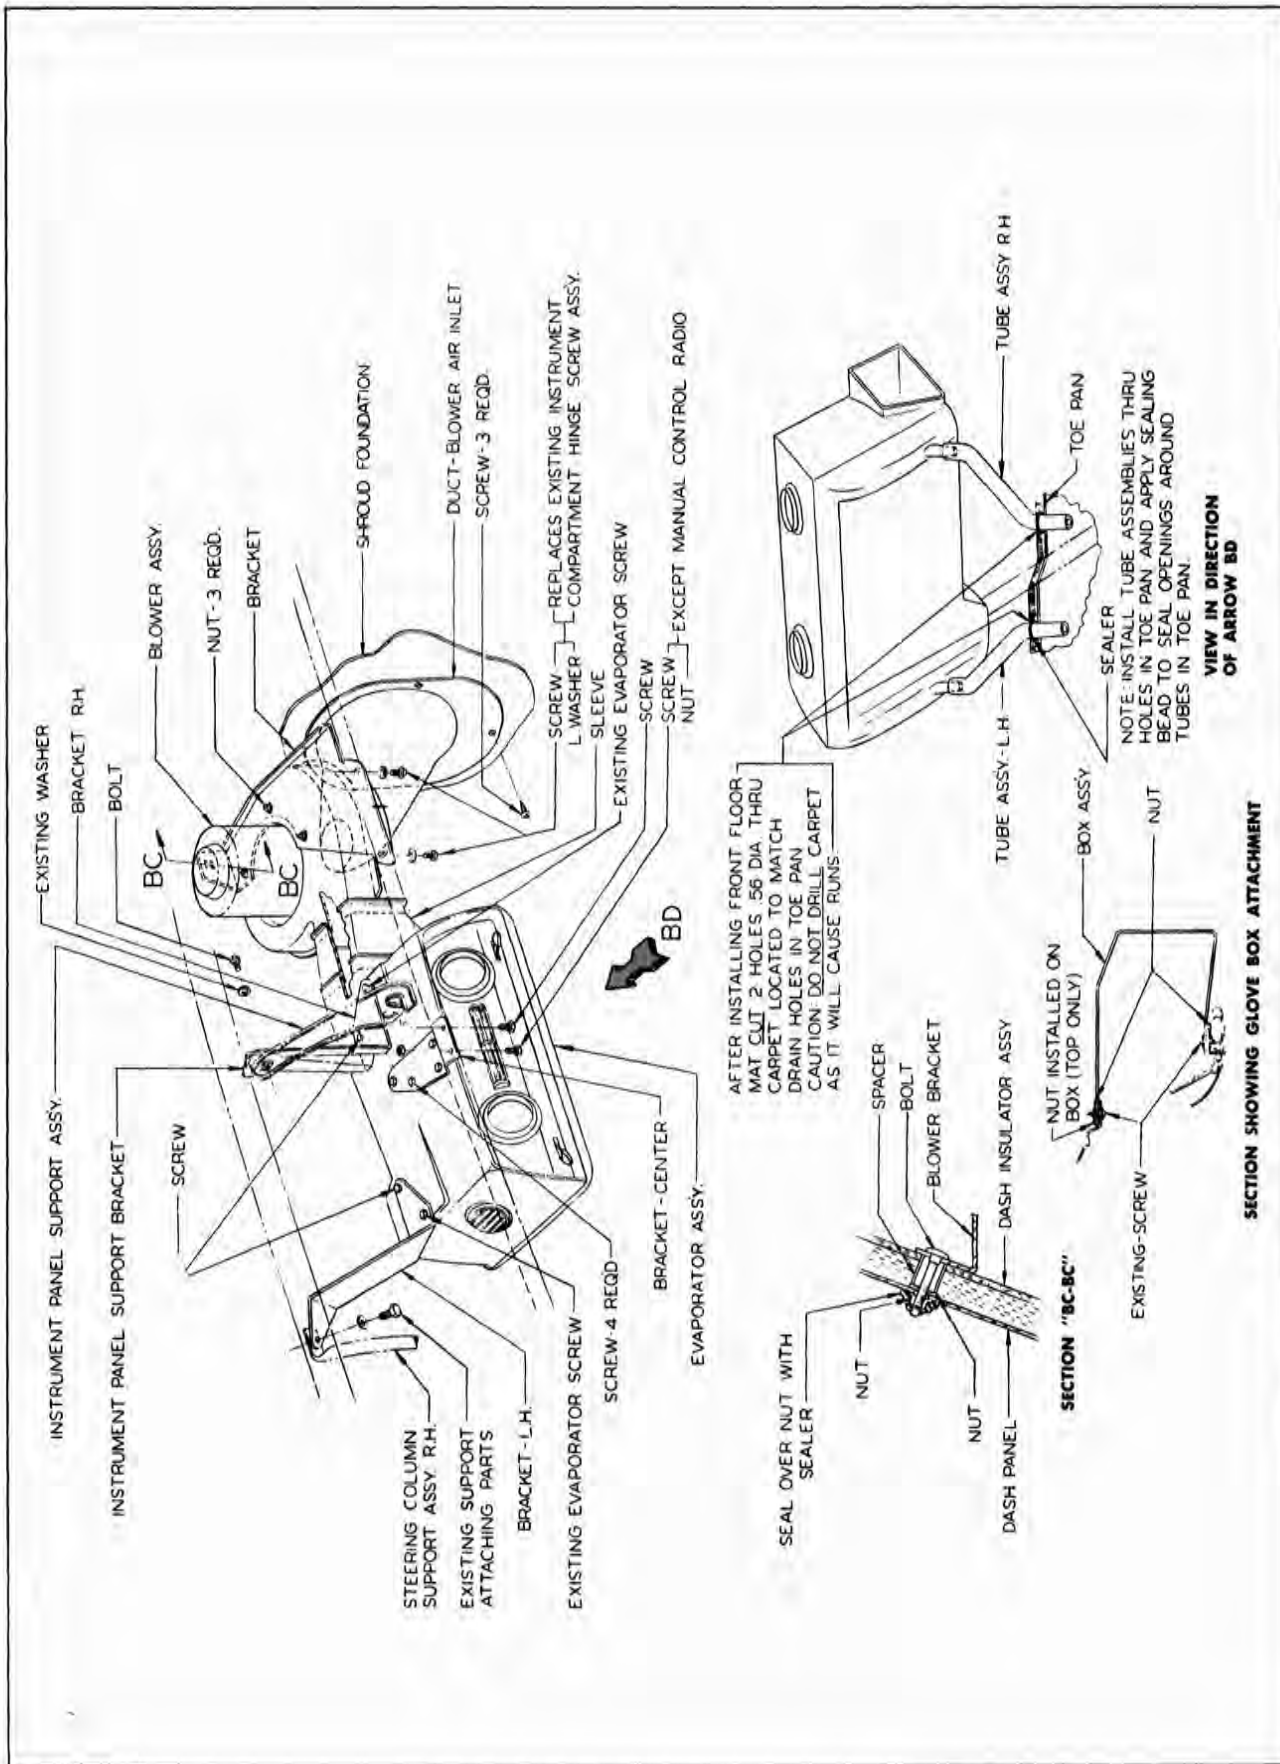

Fig. 6-27 Installation of Tempest Cool Pack Body Interior Parts
6. Disconnect wires at resistor assembly (Fig. 6-27) and wire harness.
#### REMOVE AND REPLACE (See Fig. 6-27)